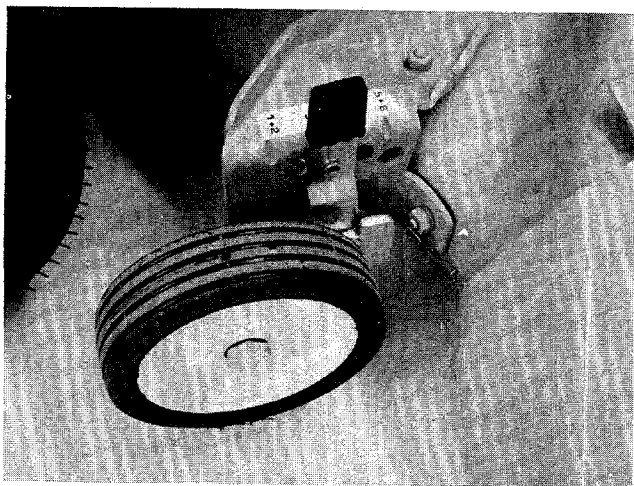

FIGURE 23.
**Wheel Height Adjuster.** Move the lever towards the wheel and set it in the desired cutting height position. See figure 23. Both wheels must be in the same relative position.
**To set the cutting deck in the full float position:** Set the wheel height adjusters in the desired cutting height as indicated in figure 23. Set height of cut stop in the lowest position. See figure 22.